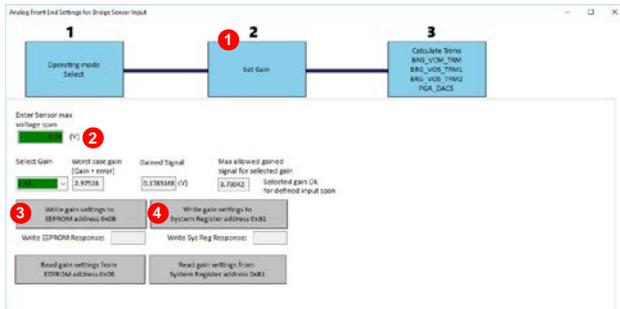

Figure 18. How to Set Gain in the EVAL-ADA4558EBZ Software
The ADA4558 provides 24 gain options for the bridge signal input. The **Set Gain** section shown in Figure 18 details the steps for selecting and programming the gain.
1. Click **Set Gain** (Label 1 in Figure 18).
2. Enter the voltage span of the bridge sensor in volts. The **Enter Sensor max voltage span** shows 0.06 V (Label 2 in Figure 18).
3. Under the **Select Gain** dropdown menu, select the highest gain value that remains green (see Figure 18).
4. Click **Write gain settings to EEPROM address 0x0B** (Label 3 of Figure 18) and verify that the **Write EEPROM Response** returns **Positive**.
5. Click **Write gain settings to System Register address 0xB1** (Label 4 of Figure 18) and verify that the **Write Sys Reg Response** returns **Positive**.